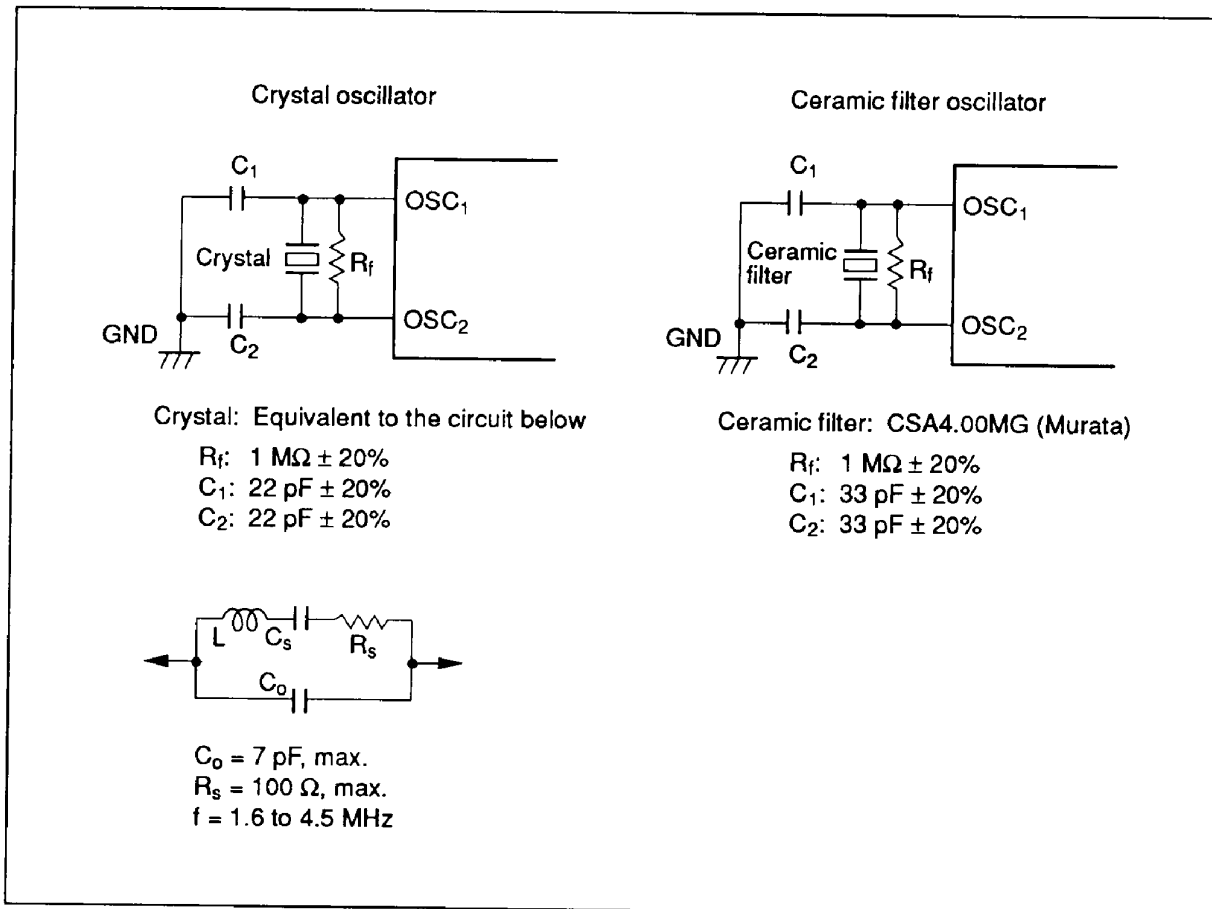

Figure 68 Oscillation Circuits (1)
1. The oscillation stabilization time is the period required for the oscillator to stabilize after V_{CC} reaches 3.0 V (3.5 V if $V_{CC} = 3.5$ to 5.5 V) at power-on or after RESET input goes high after stop mode is cancelled (figure 68). At power-on and when stop mode is cancelled, RESET must remain high for at least t_{RC} to ensure the oscillation stabilization time. If using an oscillator, contact the oscillator manufacturer to determine the circuit constants, since the stabilization time depends on the circuit constants and stray capacitances.